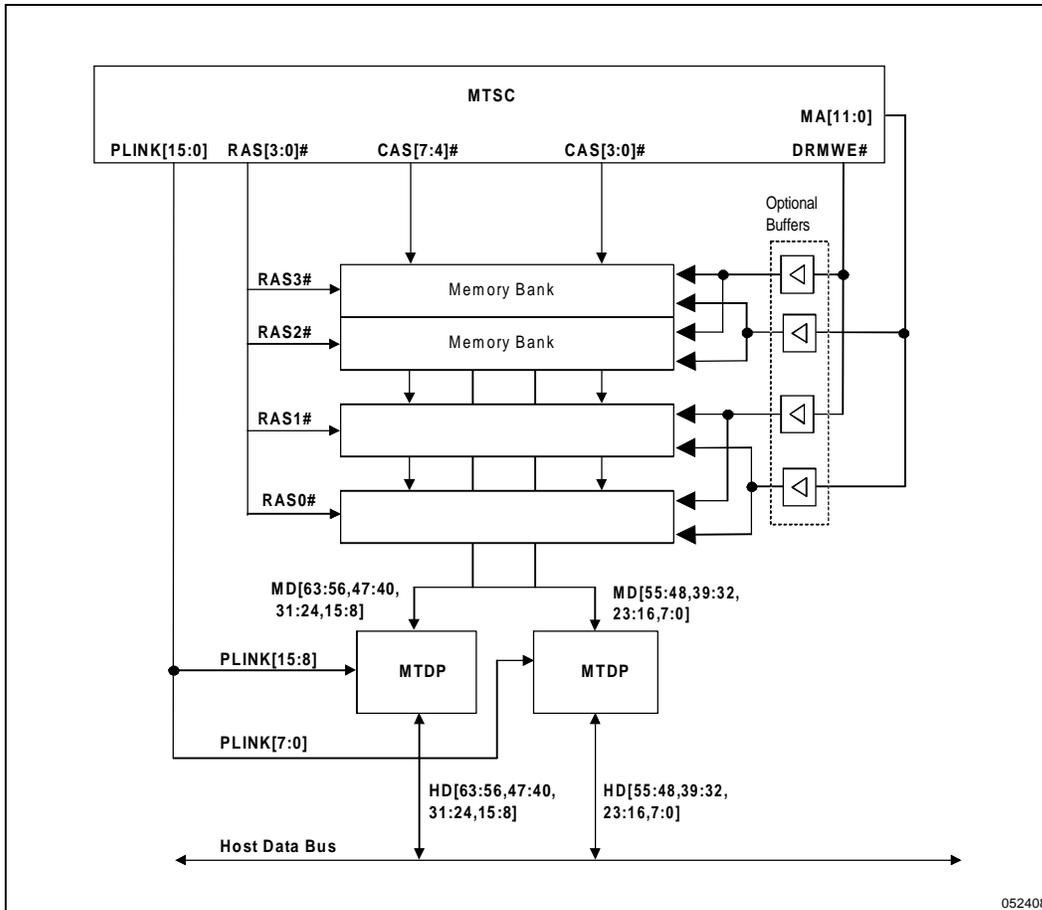

Figure 8. DRAM Array Connections
Figure 8 illustrates a 4-bank configuration. Among the 4 banks, the DRAM densities can be mixed in any order. Each row is controlled by up to 8 CAS lines. EDO and Standard page mode DRAM's can mixed between rows; however, a given row must contain only one type of DRAM. When DRAM types are mixed (EDO and standard page mode), each row will run optimized for that particular type of DRAM. Buffers on the address and WE# lines are not necessary if 3 or fewer banks are used.
- EDO's and standard page mode can both be used. However, only one type should be used per Bank pair. For example, in Figure 8 Banks 2/3 can be populated with EDO's while Banks 0 and 1 can be populated with standard page mode.